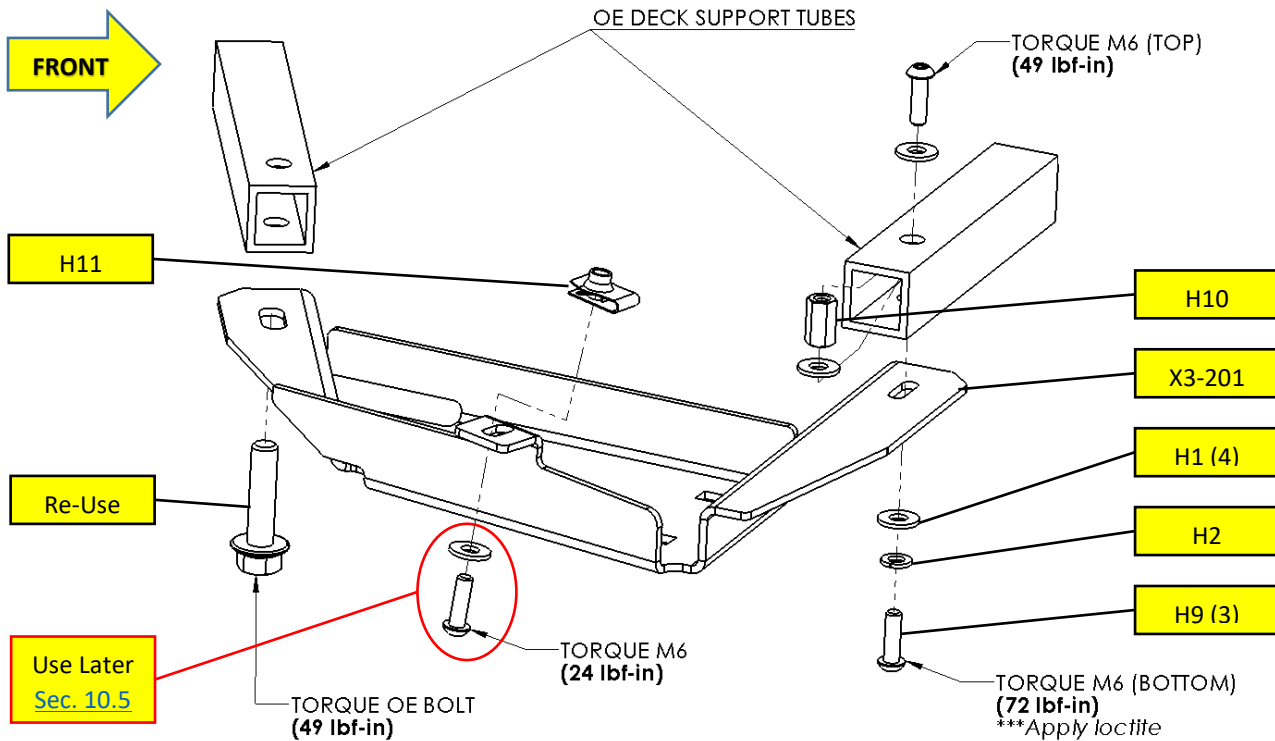
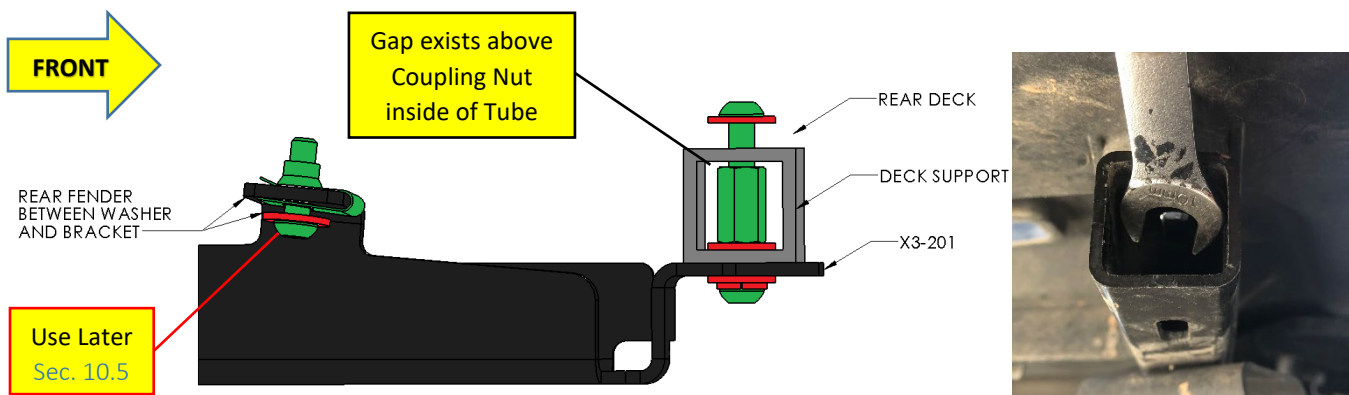

Figure 10 – Installing Rear Air Tank Bracket, Exploded View
Figure 11 – Installing Rear Air Tank Bracket, Proper Bolt Orientation (partial bracket shown)
- 8.6.2. Place the air tank onto brackets to determine if the front bracket needs adjustment (i.e., made level); make any adjustments necessary & remove the air tank. **Final torque front bracket**, per figure 10 above.
8.9.4. Using hardware #H9, H10, H11, H1 & H2, attach Air Compressor Bracket below Rack Support Tubes in same fashion, as performed during Air Tank installation (Figure 10). Leave fasteners slightly loose, to enable Bracket to be re-positioned, as needed.
- 8.9.8. With the bracket properly positioned, **final torque front rack bolts to 72 lbs-in and 49 lbs-in**, as shown in Figure 10 and Figure 11.